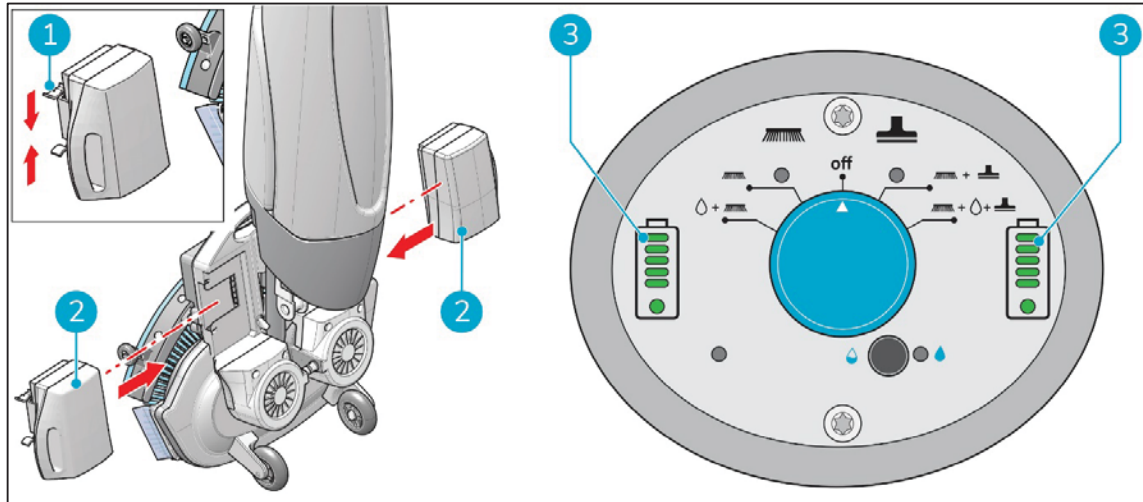

Figure 13
1. Push the blue coded battery (Figure 13, pos 2) in the blue battery slot. A click signals the battery is locked in place (Figure 13, pos 1).
3. During operation, the battery indicators (Figure 13, pos 3) on the control panel show the amount of power left.